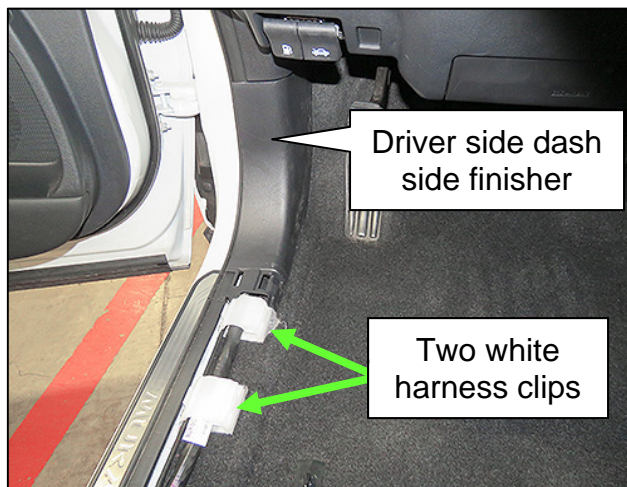

Figure 4
4. Use a trim panel tool to disconnect the two (2) white harness clips, shown in Figure 4, from the body.